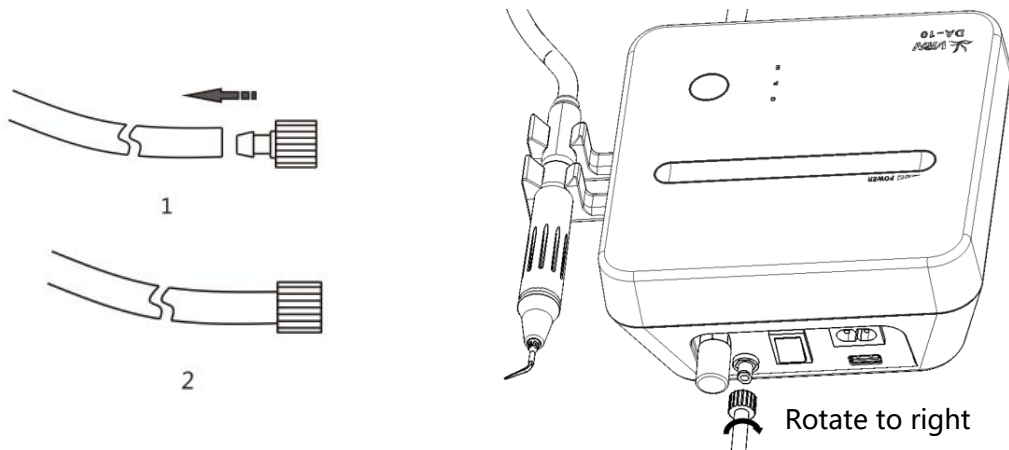

Figure 2.5
4) Connect the connector of liquid pipeline to the device, and input pure water to it (See Figure 2.5).